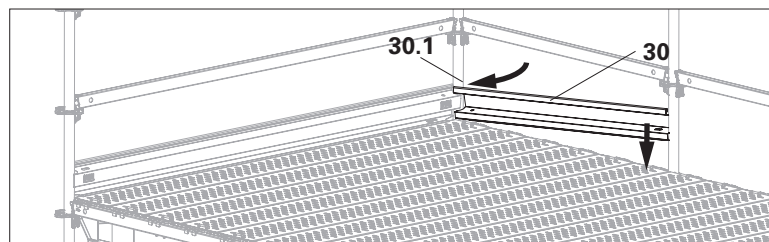

Fig. A5.04a
- Insert Toe Board UPY (30) from the outside-left first of all using the large tube cut-out (30.1). (Fig. A5.04a)